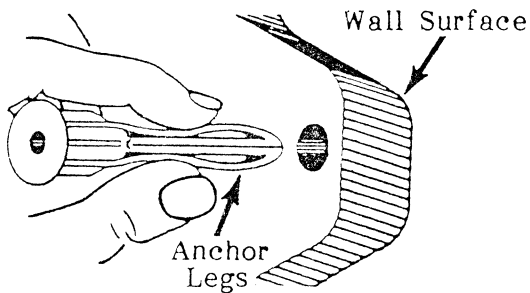

FIGURE 4
01.21 Press the anchor legs of the togglers together, and insert them into the anchoring holes (Figure 4) until their neck flanges are flush with the mounting surface. If insertion is difficult, tap them lightly with a hammer.